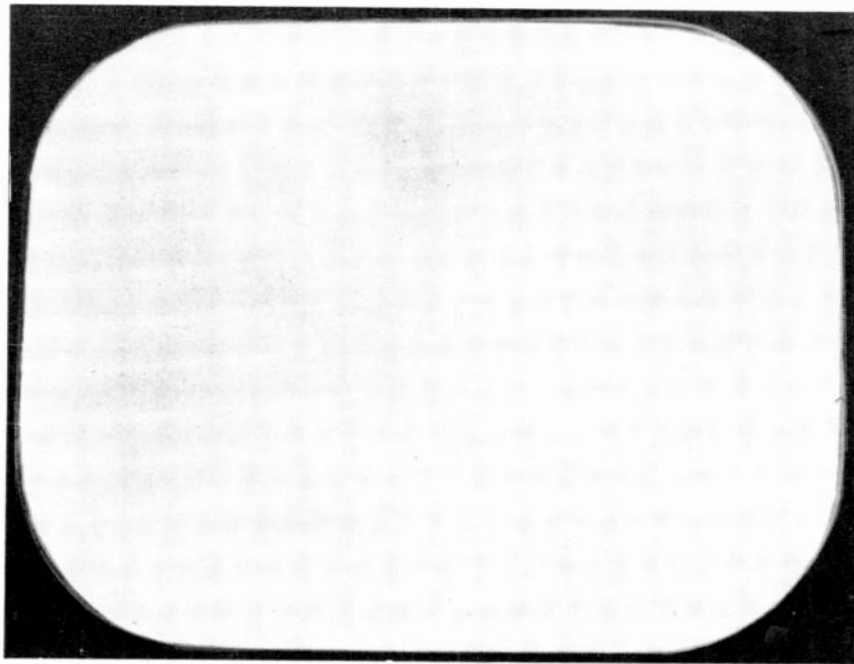

FIG. 12. PHOTOGRAPH OF A BLANK SCANNING RASTER, SHOWING RETRACE LINES
2. Detail and Focus ★ From the discussion in Section 1, it should be evident that sufficient information has been presented to allow the formulation of the dependence of the required frequency bandwidth on the visible detail in the image. This formulation is quite important to the proper understanding of the problems of television. These problems may be said to be related to the required bandwidth, for the most part, and to the methods of presenting the information contained in this bandwidth within the time allowed for transmission of a television image. This information is presented at the receiving end on the illuminated area known as the scanning raster of a cathode-ray tube. A photograph of a blank scanning raster is shown in Fig. 12. Fig. 13 shows the presentation of detail within this raster in the form of a test chart.